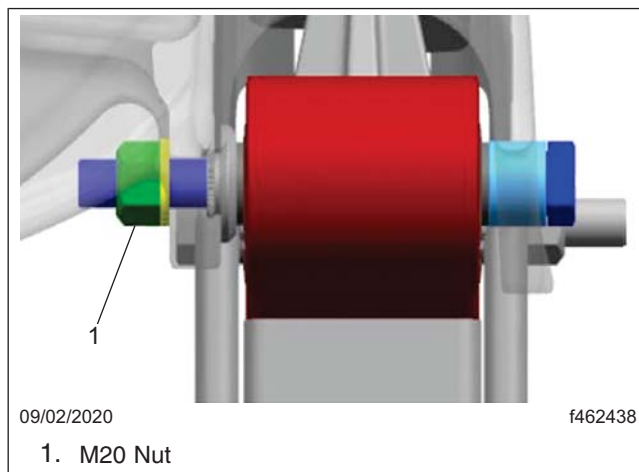

Fig. 2, M20 Nut in Place
- 3.1 Inspect and verify that the M20 nut located on the inside of the hanger bracket is in place. See Fig. 2